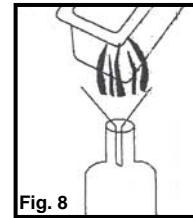
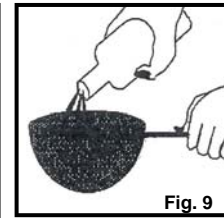

Fig. 8
Fig. 9
- To filter the oil first make sure the oil has cooled and then empty the oil from the oil container into another container or bottle. (Fig. 8) Wash and dry the oil container and basket. Refill the oil container with the oil, pouring the oil through a wire strainer or paper filter. (Fig. 9)